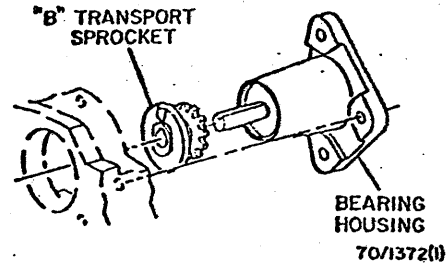

Fig. 3-9. B Transport Sprocket
3. Remove the B transport sprocket and bearing housing (Fig. 3-9).